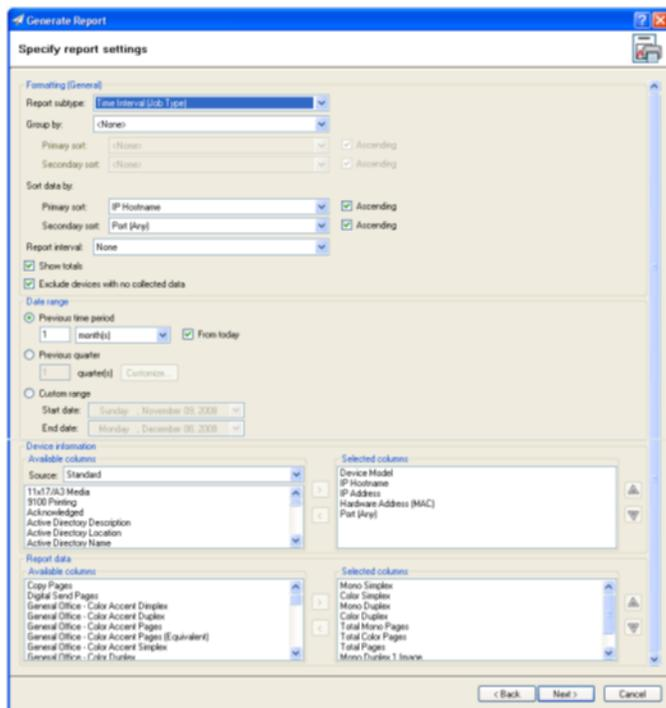

Figure 19: Specify report settings page
4. Click **Next**. The **Specify report settings** page opens (Figure 19).